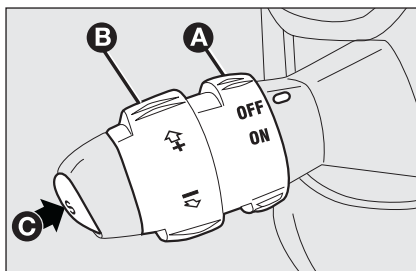

fig. 54
Turn knurled ring **A**-fig. 54 to **ON**.
- turn the knurled ring **A**-fig. 54 to **ON** and press the accelerator pedal to the required speed;
- press button **C-fig. 54**.
- turning the knurled ring **B-fig. 54** temporarily to (+).
- keeping the knurled ring **B-fig. 54** to (–) until reaching the new speed which will be memorised automatically.
Turn the knurled ring **A-fig. 54** to **OFF** or the ignition key to **STOP**. The device is automatically deactivated also in one of the following cases:
In the event of device malfunction or failure, turn the knurled ring A-fig. 54 to OFF and contact a Fiat Dealership after checking the protection fuse integrity.